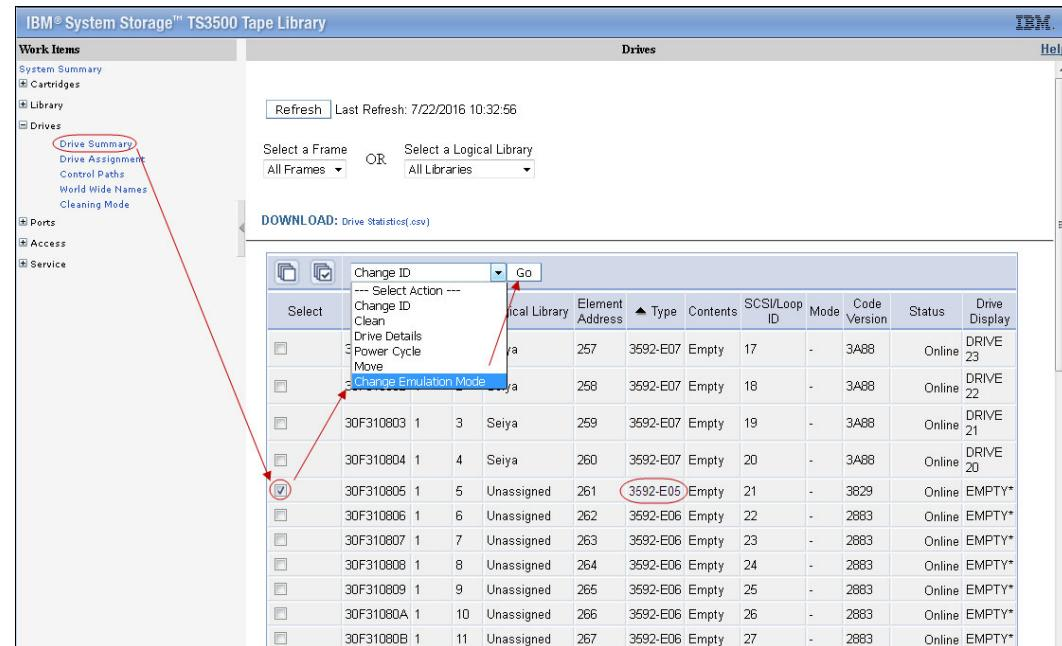

Figure 11-10 Change the drive emulation
2. If necessary, change the drive mode to Native mode (3592-E05 only). In the Drives summary window, select a drive and select **Change Emulation Mode**, as shown in Figure 11-10.